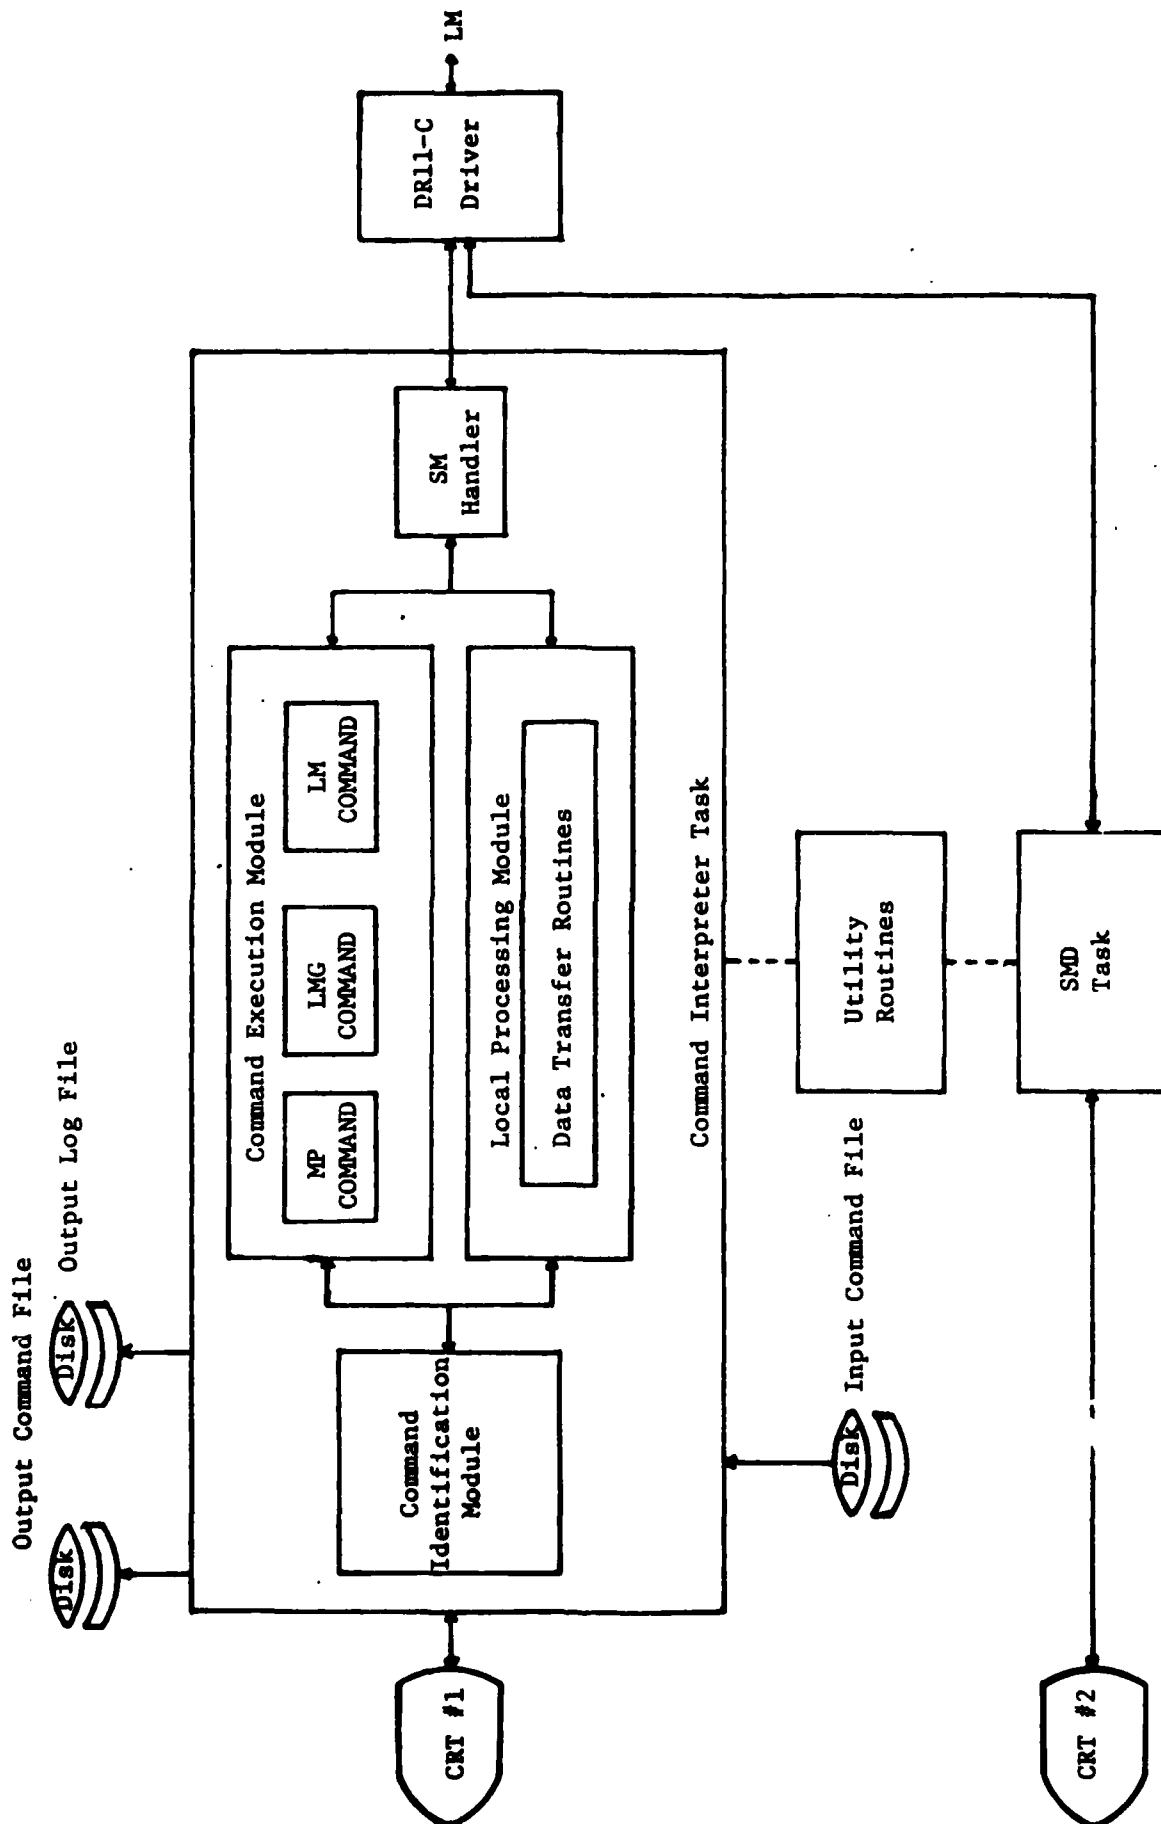

Figure 6 Block Diagram of LMG Simulator System
Figure 6 is a block diagram of the LMG simulation system. The Command Interpreter (CI) task runs on CRT #1 to interpret and execute commands. The Shared Memory Display task runs on CRT #2 to continually interpret and display the contents of the Shared Memory (SM) in an easy-to-read format.